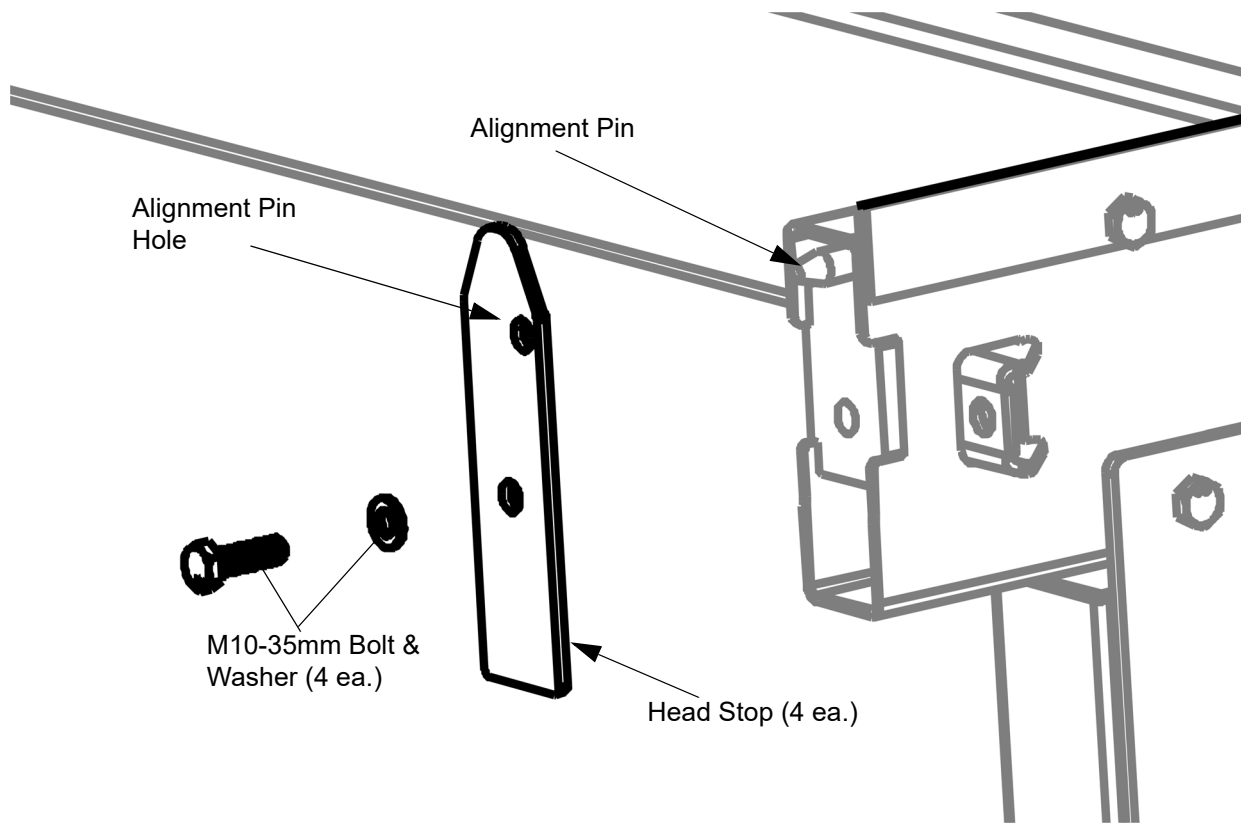

FIG. 3-7
1. Once the Leg Assemblies are attached to the bed section, next install the Head Stops at each end of the bed section (4 Stops total) See Figure 3-7 for reference.
2. Make sure the Head Stop's alignment hole is positioned correctly then secure each stop with (1) M10-35mm Hex Head Bolt and M10 Washer as shown. Repeat this for all four End Stops.